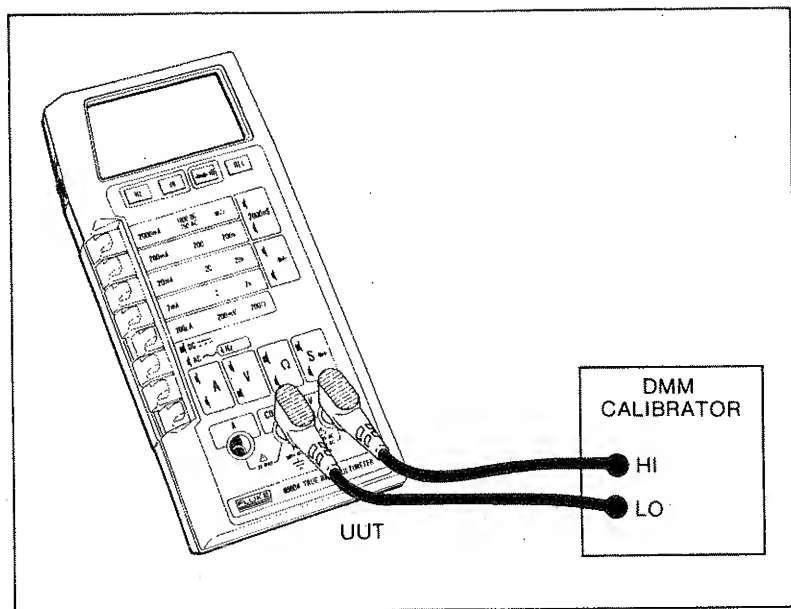

Figure 5-4. General Equipment Connection
1. Connect the UUT and the DMM Calibrator as shown in Figure 5-4.
2. Select the conductance (S) function.
2. Connect the UUT and the DMM Calibrator as shown in Figure 5-4 and apply a resistance of 1.000 k Ω . A reading of .9000 to 1.1000 (typical) should appear on the UUT display.
3. Connect the equipment as shown in Figure 5-4 and turn on the equipment.
4. On the UUT, select the dc voltage function and the 2 volt range. Turn R6 fully clockwise (CW), and turn R5 fully counterclockwise (CCW).